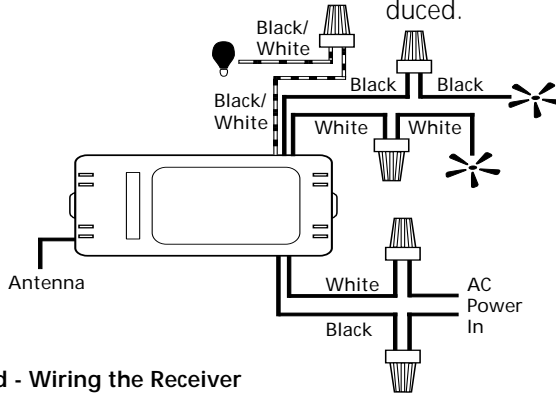

Figure 6d - Wiring the Receiver
2. Make wiring connections using the wire nuts supplied. To connect the wires, place bare metal leads together, place a wire nut over the intertwined length of wire and twist clockwise until tight as shown. Refer to Figure 6d.